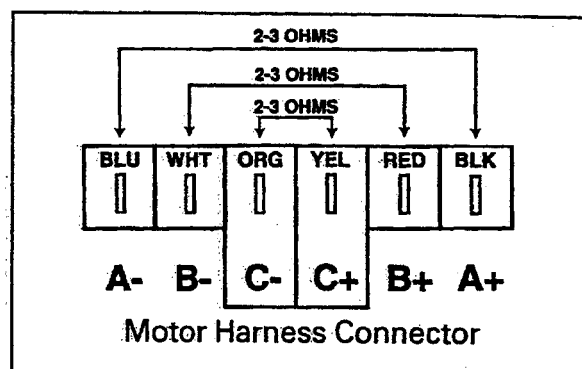

Figure 2-55
Refer to section titled "Motor Control" for board identification of A, B and C terminal/harness identification (**Figure 2-55**). Also, see the wiring schematic for harness identification.
2. Remove each pair of phase wires from the motor control and perform an ohms check of each wire leading to the motor. Each wire pair should show 2-3 ohms resistance (*Figure 2-55*).